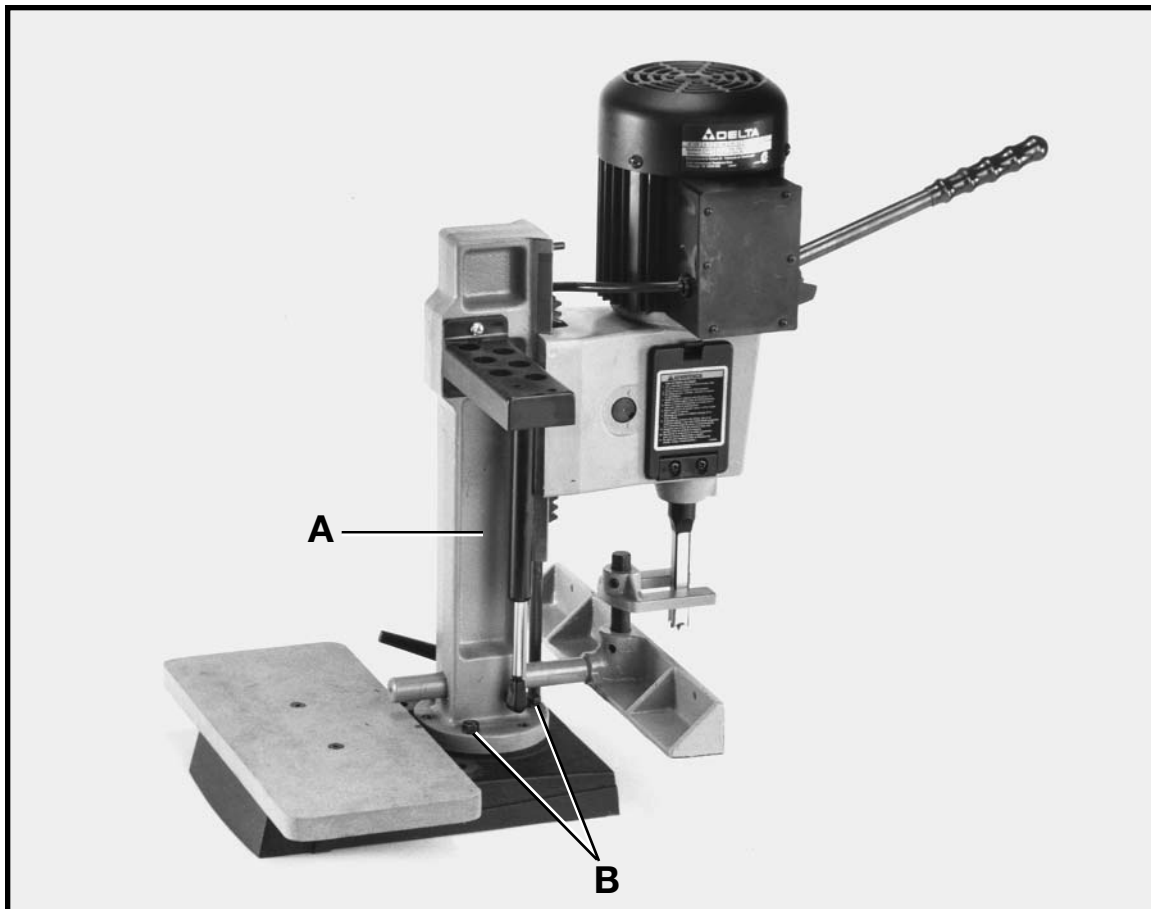

Fig. 36
The column (A) Fig. 36, can be rotated 180 degrees, as shown, if it is desired to use workpieces off the table. To rotate the column, remove three screws, two of which are shown at (B), rotate column (A) 180 degrees and replace the three screws (B).